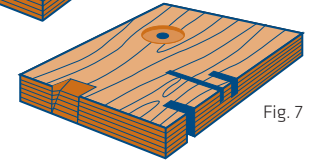

Fig. 7
**Saw Cuts, Drilled Holes and Notches** - Saw cuts across the face or through the edge of the plank, drilled holes or notches will reduce the plank's load carrying capacity. Planks with saw cuts, drilled holes or notches should be removed from service and inspected by a qualified person\* (Fig. 7)